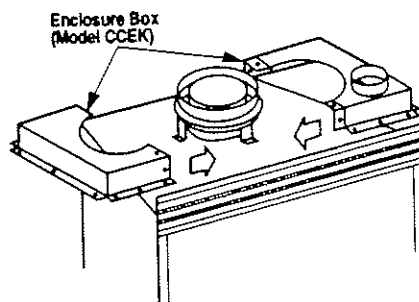

Figure 21
**Step 6.** Attach the chimney collar enclosure kit, Model CCEK, around chimney collar with the screws provided (Figure 21).